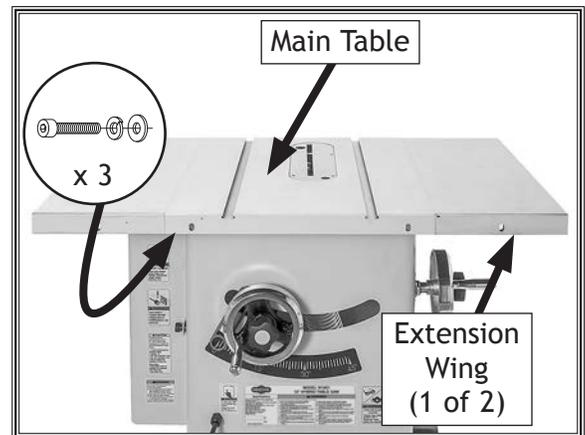

Figure 21. Extension wings installed.
7. While a helper holds wings in place, attach each extension wing to main table with (3) M10-1.5 x 30 cap screws, 10mm lock washers, and 10mm flat washers (see **Figure 21**).